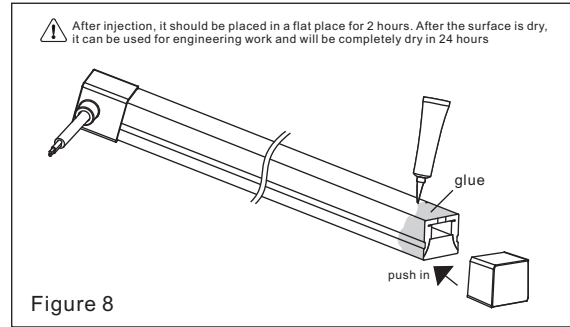

Figure 8
(8) Apply the filling glue around the tail of the strip and push the plug into it, as Figure 8: